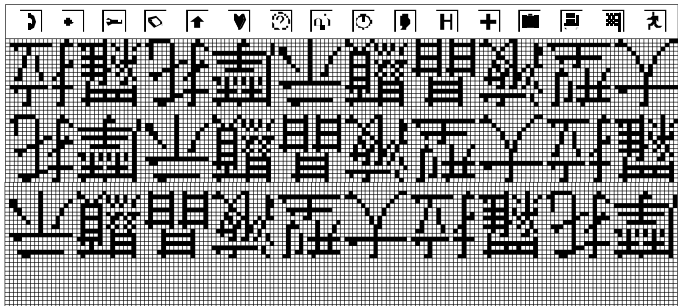

Figure 8d: Column remap enable & Re-write RAM content
Detailed information please refer to Figure 8d in the section "Display Output Description" .
- 3) Enable column re-mapping & rewrite RAM content shown in Figure 8d,